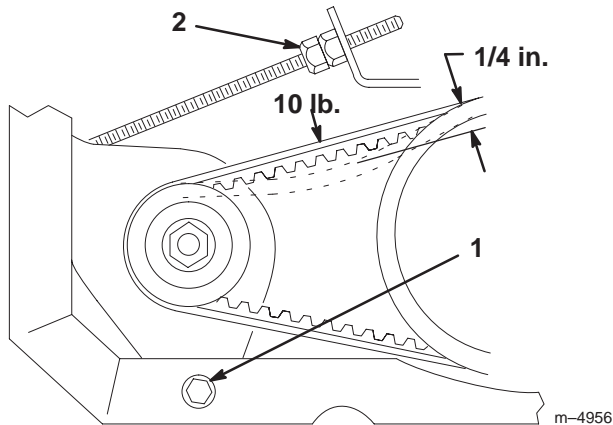

Figure 37
2. Loosen the starter generator pivot bolt (Fig. 37).
3. Adjust the jam nut on the starter rod (Fig. 37) until the belt flexes 1/4 inch with 10 lb. of force.
4. Tighten the starter generator pivot bolt (Fig. 37).